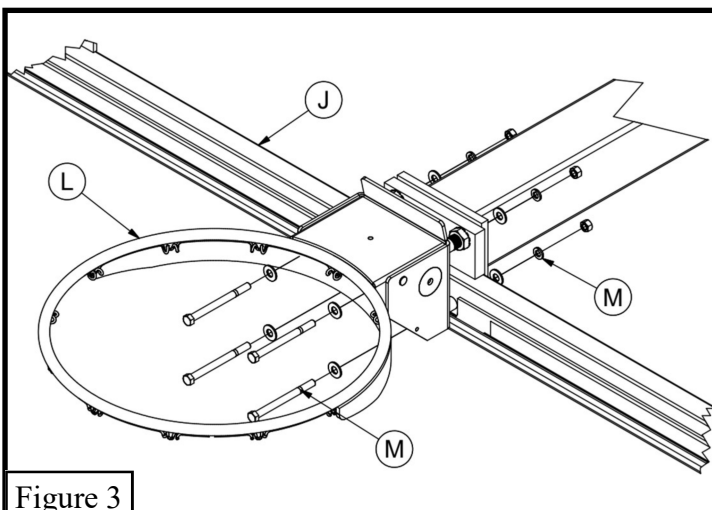

Figure 3
4. Mount the *Breakaway Goal* (L) and the *Backboard* (J) using $3/8"$ x $4 1/2"$ Hex Bolts (D) through the *Breakaway Goal* (L) and the *Backboard* (J) and the holes in the backboard mounting plate. Install $3/8"$ flat washers, lock washers, and hex nuts that are included in the *Breakaway Goal Hardware* (M). See Figure 3. **Leave hardware finger tight only at this time.**